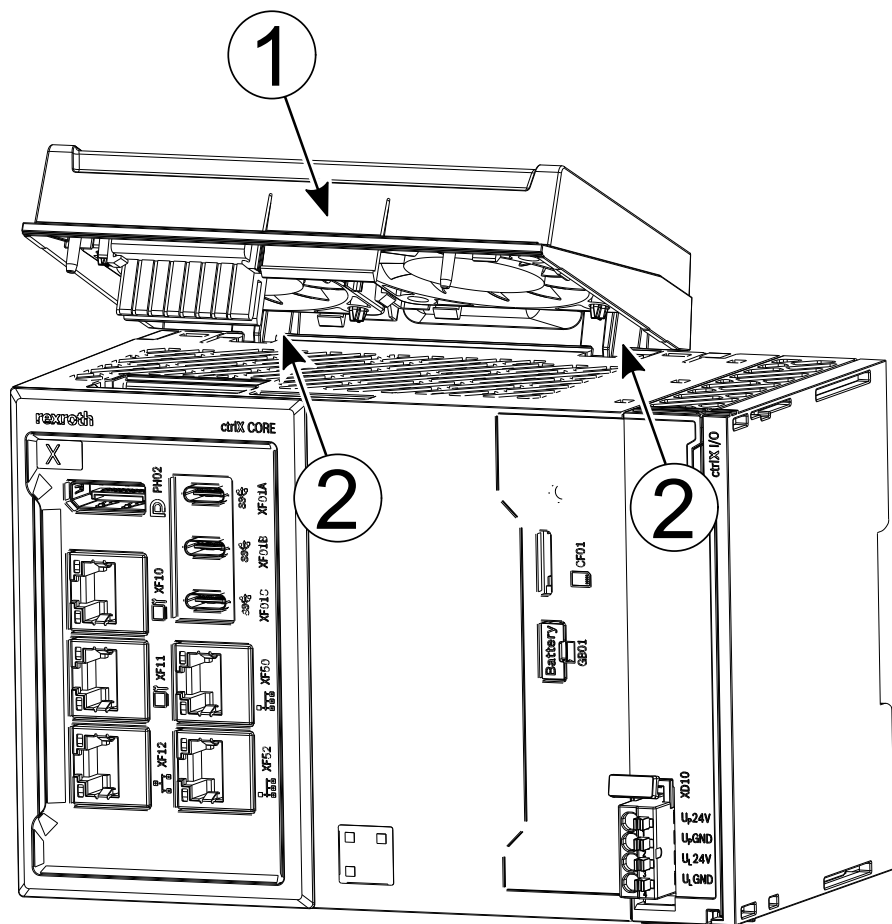

Fig. 12: Fan mounting
1. ➔ Release the locking hook of the fan at the front, see ① in Fig. 12.